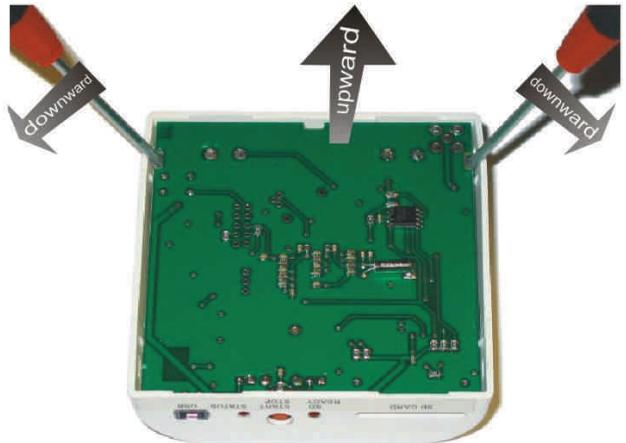

Fig. 14.2. Removal of the control board
- carefully take out the control board of the recorder from the housing (Figure 14.2)